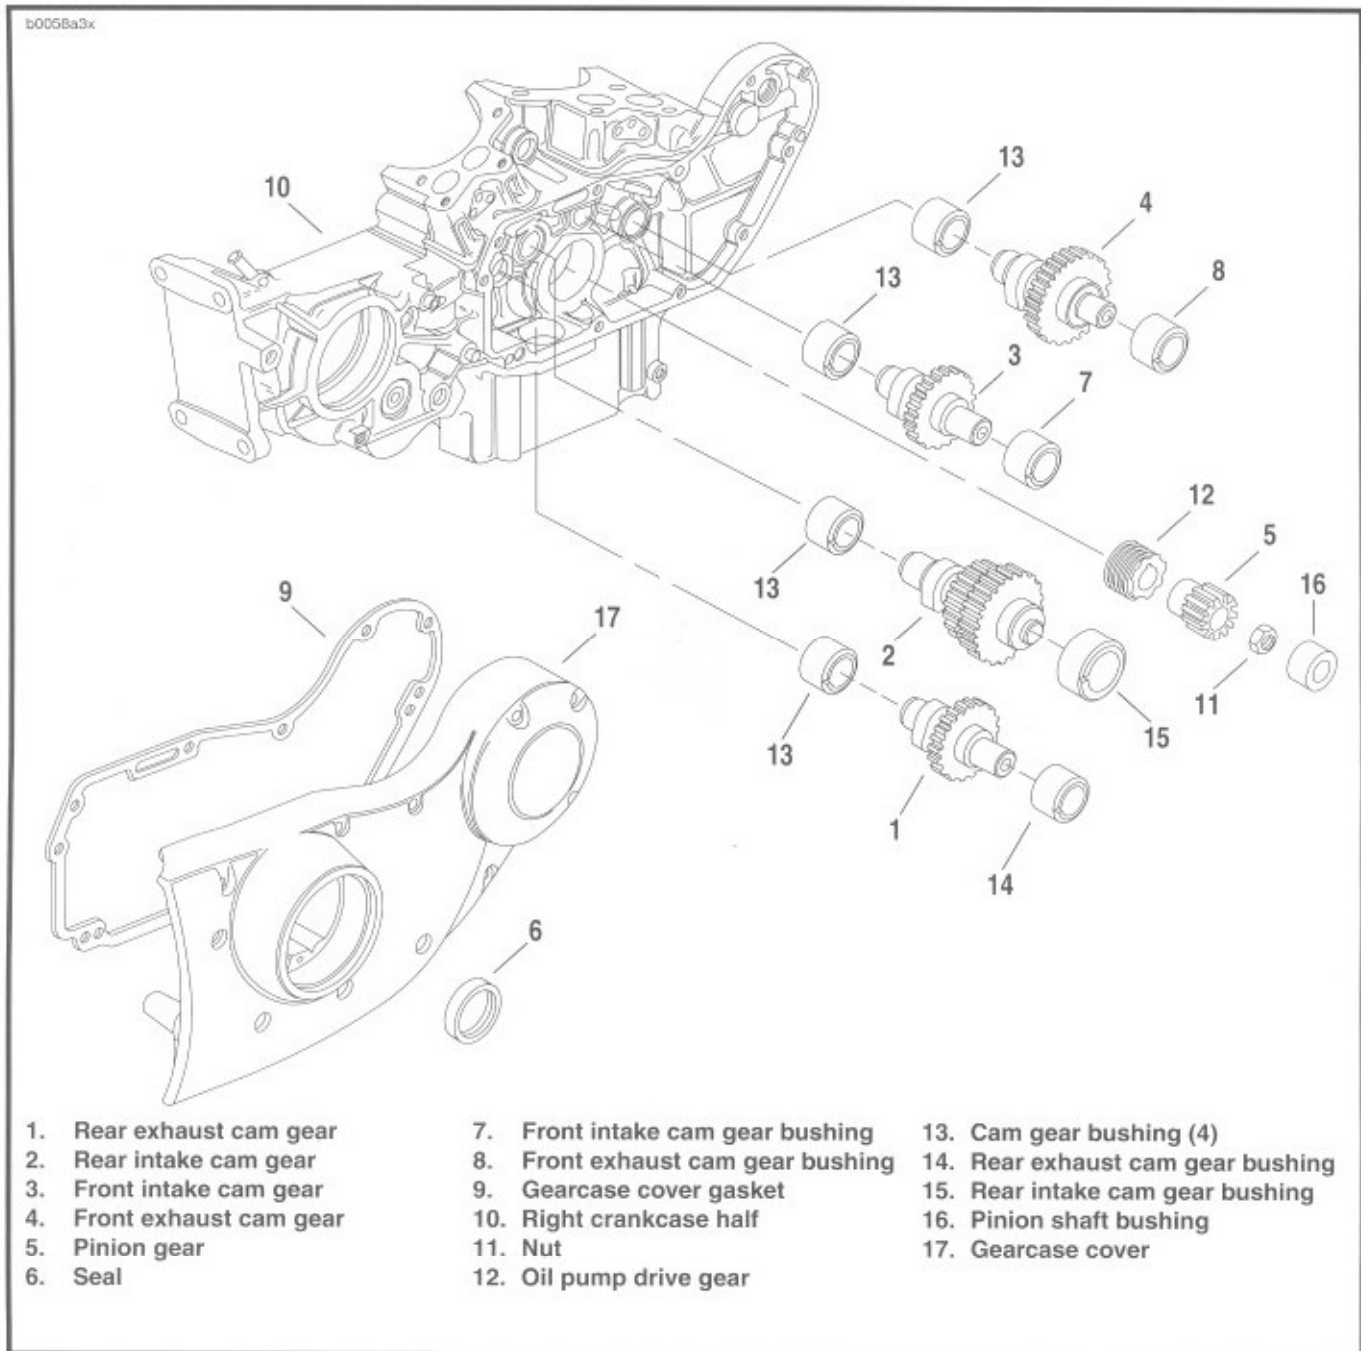

Figure 3-59. Gearcase and Valve Train Components
### (Figure 3-59)
- See Figure 3-59. Bushings (7, 8, 13, 14, 15, and 16) are press fit in gearcase cover (17) and crankcase. Inspect each bushing against its corresponding cam gear shaft or pinion gear shaft.
- See Figure 3-59. Using an arbor press, install each bushing (7, 8, and 14) in its gearcase cover (17) bore so that bushing shoulder contacts cover boss. There is no need to orient these particular bushings in any specific position of rotation within gearcase cover bores.
- See Figure 3-59. Rear intake cam gear bushing (15) must be installed in its gearcase cover (17) bore using an arbor press. You will need to orient the bushing in a specific position of rotation within the cover bore, and will need to drill a lubrication hole in the bushing, according to the following procedures.
1. See Figure 3-59. Using an arbor press, install pinion shaft bushing (16) in its gearcase cover (17) so that bushing is flush with cover boss. There is no need to orient this particular bushing in any specific position of rotation within the gearcase cover bore.